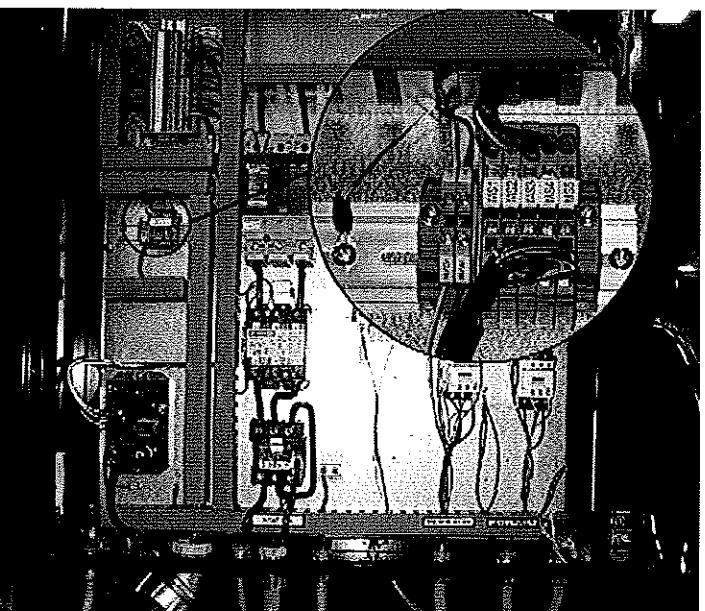

Figure 40
- Moisture Sensor connection points in the High Voltage Cabinet are labeled M1-M5. **See Figures 40 and 41.**